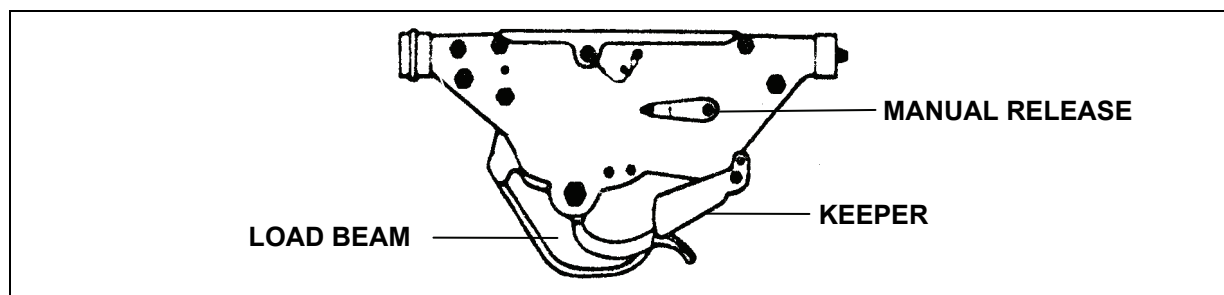

Figure 2-22. H-60 Cargo Hook System
- The Army UH-60A and USAF HH-60G cargo hook has a maximum load capacity of 8,000 pounds. The Army UH-60L cargo hook has a maximum load capacity of 9,000 pounds. The cargo hook load capacity of the Navy version, SH-60B, is 4,000 pounds. The cargo hook capacity of the Navy HH-60H and Coast Guard HH-60J is 6,000 pounds. The cargo hook (Figure 2-22) is mounted in an opening in the floor of the aircraft just aft of the main rotor. The aircrew can open the hook electrically or manually. A manual release knob or lever is located on the right side of the cargo hook. In an emergency, the ground crewman or aircrew member can rotate the knob or lever counterclockwise and open the cargo hook.